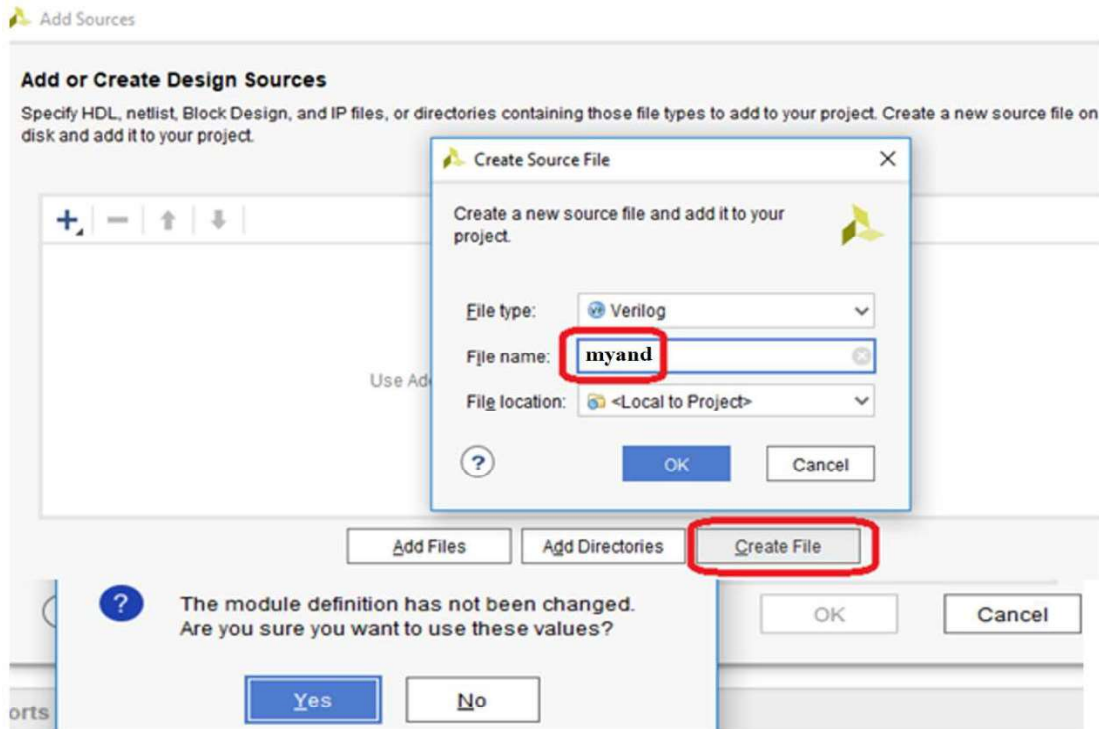

Figure 1-3. Add Sources
8. In the “Add Sources” popup window shown in Figure 1-3, click on “Create File” button, and then enter “myand” as Verilog file name. Next, click on “OK” -> “Finish”.